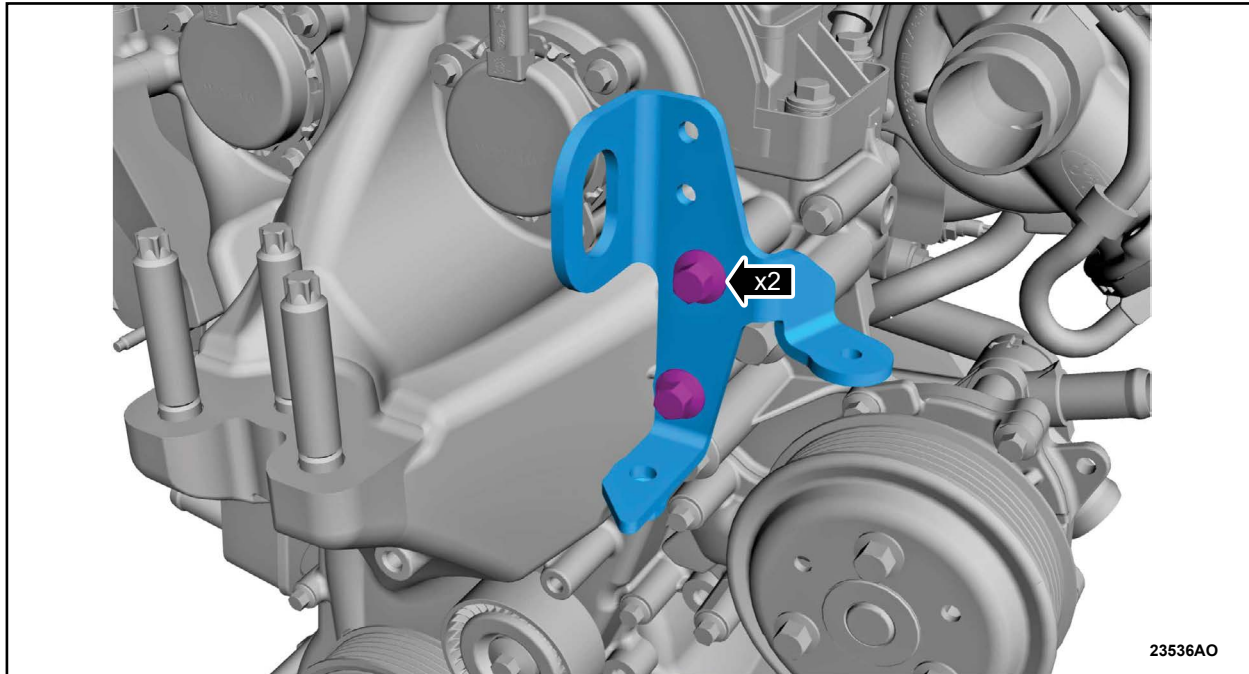

FIGURE 45
53. Install the lifting eye and the bolts. See Figure 45.